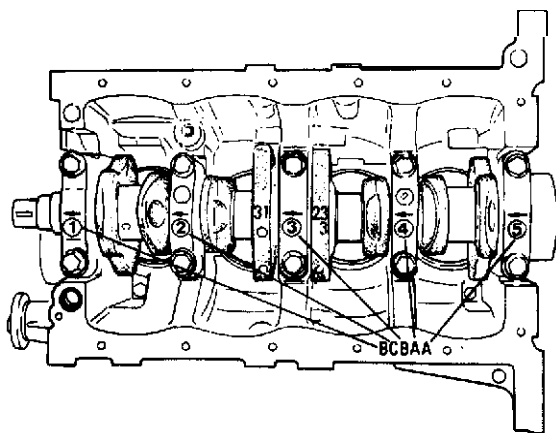

Fig. 3-5-46 Stamped alphabets on cylinder block
On mating surface of cylinder block, five alphabets are stamped as shown in Fig. 3-5-46.
For example, in Fig. 3-5-46, the first (leftmost) alphabet "B" indicates that the cap bore dia. of bearing cap ① is within 49.006 – 49.012 mm, and the fifth (rightmost) alphabet "A" indicates that the cap bore dia. of cap ⑤ is within 49.000 – 49.006 mm.